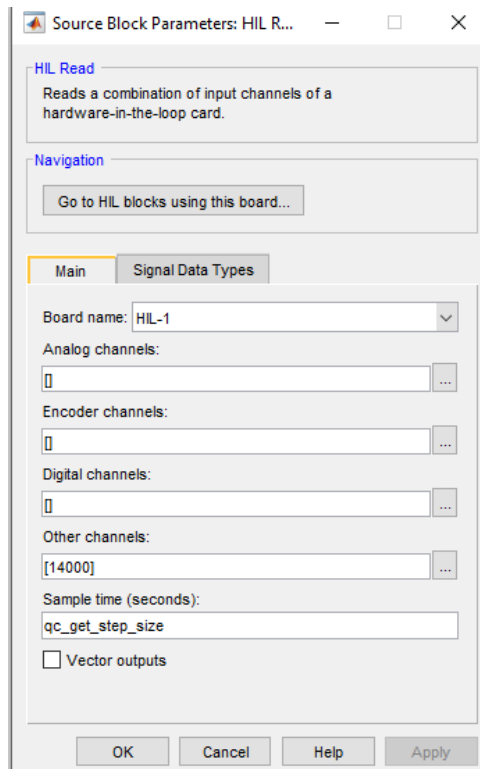

Figure 1.12: Setup of the HIL read block to output the angular velocity from the tachometer sensor
2. Add a HIL read block. Double click on it and setup it to output the tachometer measure as shown in Figure 1.12.